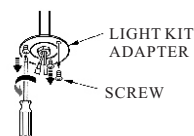

FIG. 12
1. Remove 1 of 3 screws on light kit adapter, and loosen the other 2 screws. (see Fig. 12)